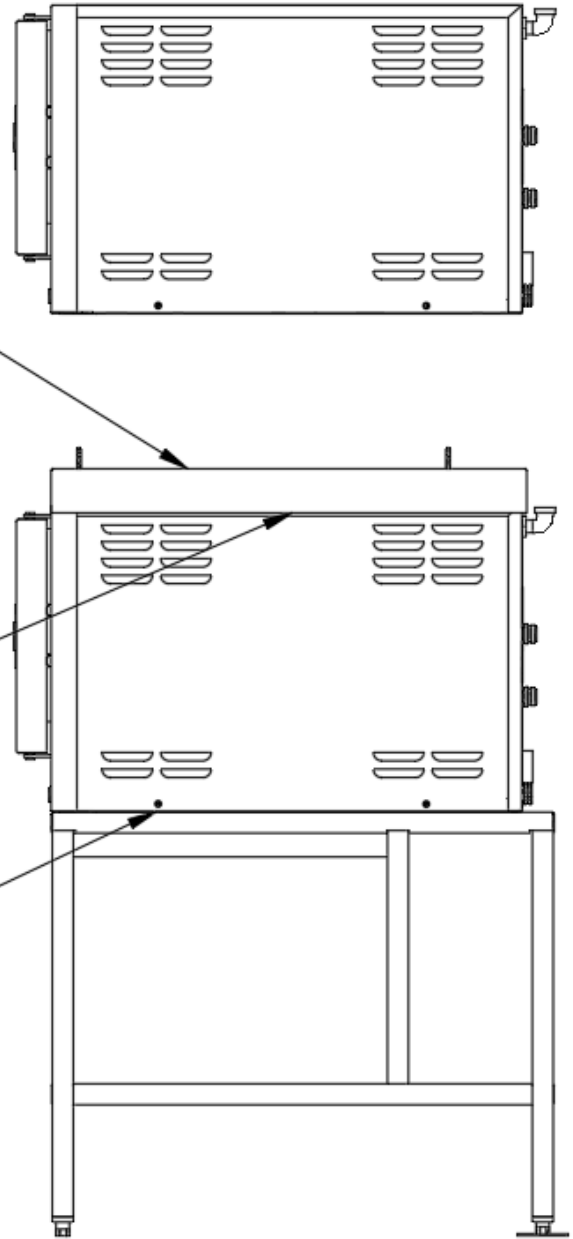

Figure 4
4. Remove right side panel and seal any gaps between steamer and stand with a suitable RTV Sealant (not provided) as shown in Figure 4.
6. Remove side panels from upper steamer. Do not screw 4" legs into steamer. Apply a bead of RTV sealant around entire top perimeter of stacking spacer retainer (see Figure 4 on next page).